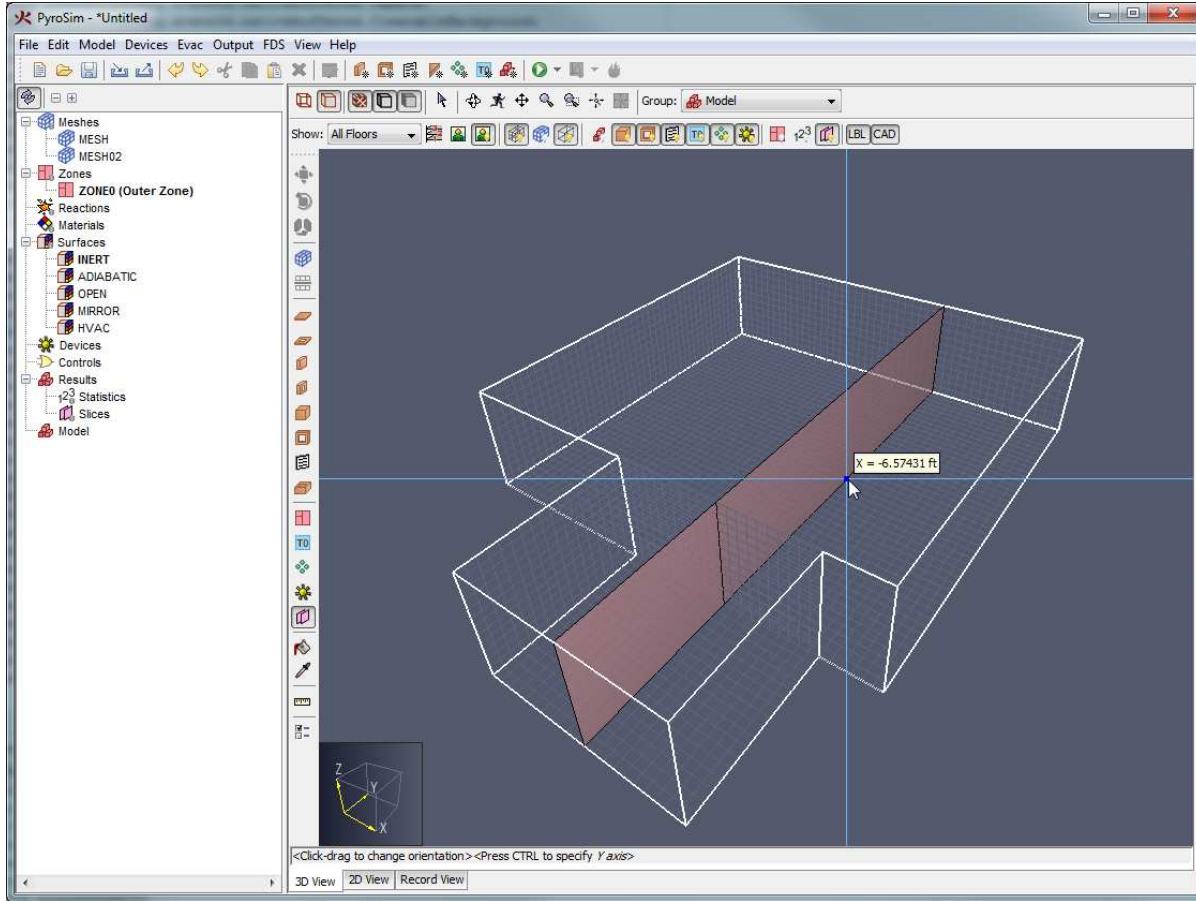

Figure 91. Drawing a slice with the planar slice tool
3. Move the cursor to the desired slice location. A preview slice will be displayed as shown in Figure 91.